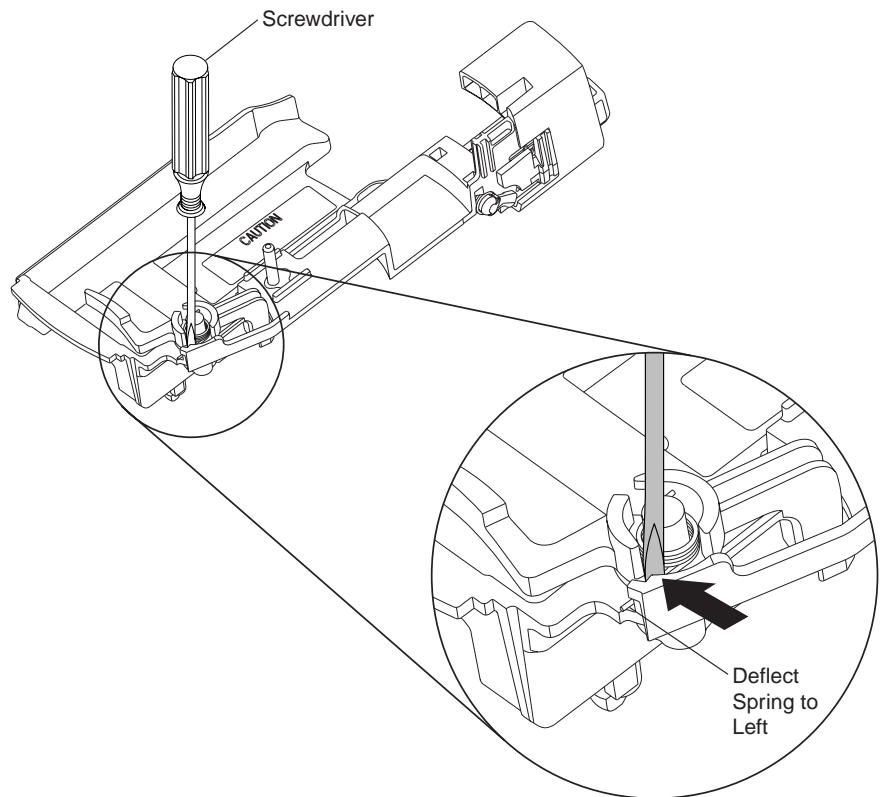

Figure 9 Removing the Kicker
- 17. Remove the pin (30) and the purple universal bushing (29) from the pocket housing (5) by pulling upward on the pin.
- 18. Remove the kicker (4) from the pocket (see Figure 9):